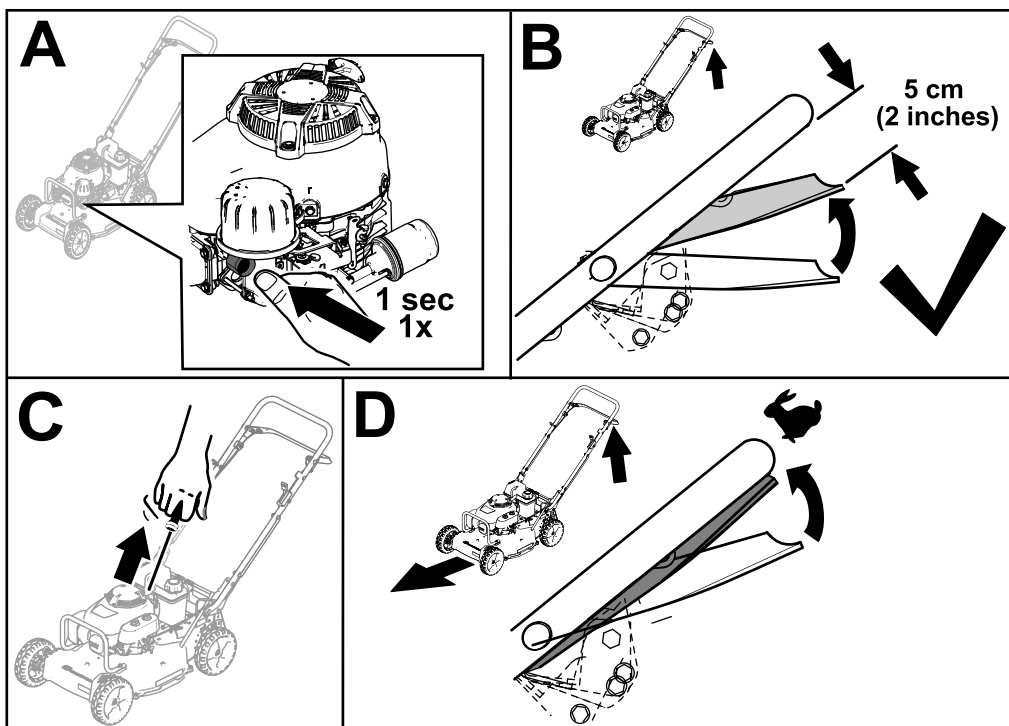

Figure 13
3. Firmly push and hold the primer bulb in for 1 second (A of Figure 13).
4. Hold the blade-control bar in the Run/Shift position, about 5 cm (2 inches) below the handle (B of Figure 13).
5. Pull the starter handle lightly until you feel resistance, pull it sharply, then allow it to return slowly to the rope guide on the handle (C of Figure 13).